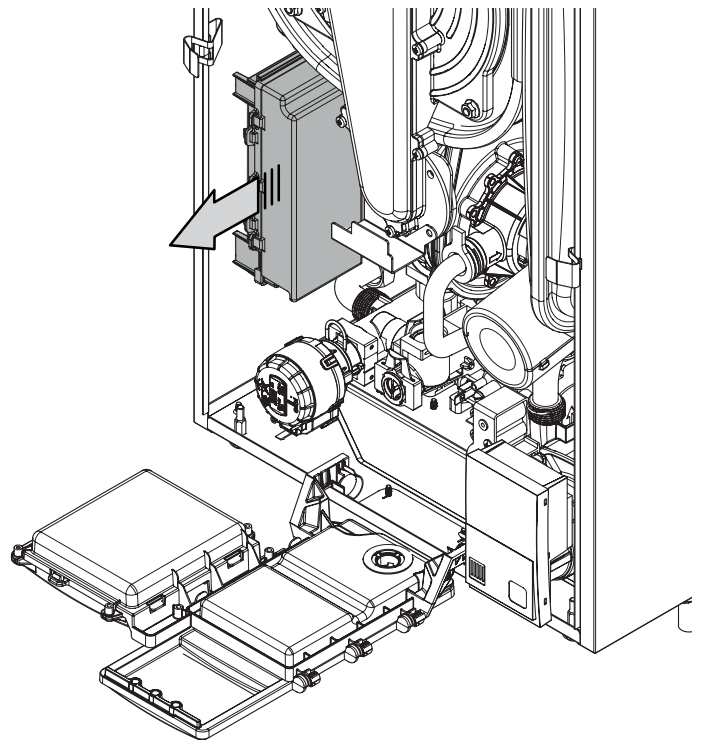

Figure 2.8
- 5 Pull the box that contains the electronic p.c.b. and rotate it (Figure 2.8).